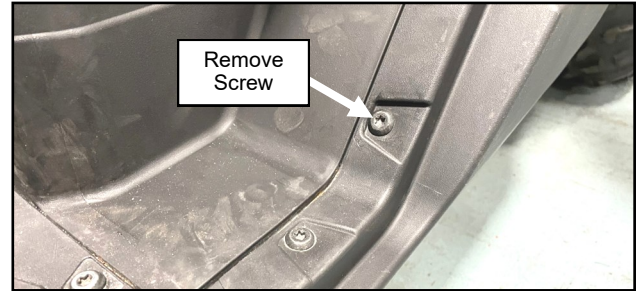

Fig. 1.1 (Remove Screw, Left side of Vehicle)
- 1.1 Per figure 1.1, remove and set aside screw on both the left and right side of the vehicle.